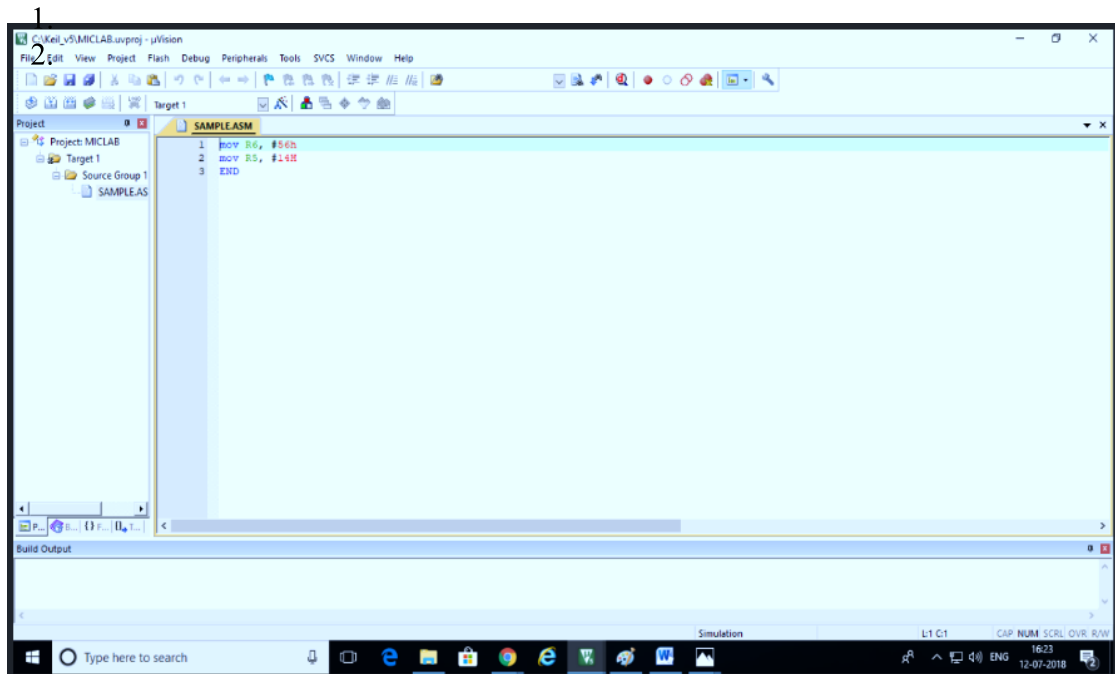

Figure 4.7: Project Work space Window
10. Project work space window will display 'Target 1' and 'Source group 1' with added file name. (refer Figure 4.7)